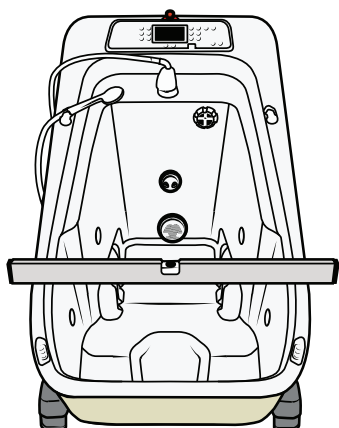

Figure 110
4. Make sure the bathtub is horizontal. Check the level with the spirit-level at the width of the chassis. See Figure 110.